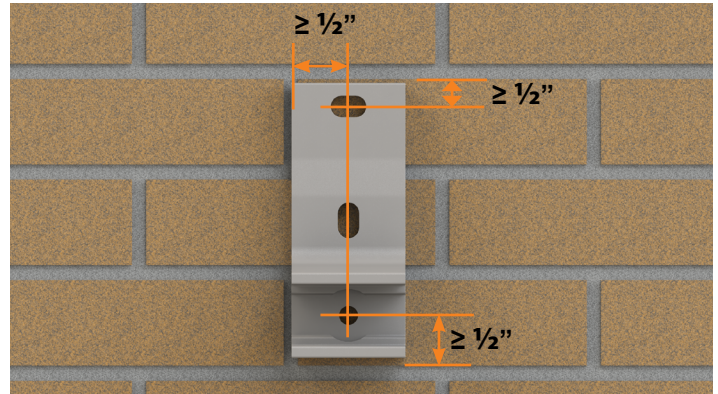

Fig.19
- When installing on brick surfaces, masonry fasteners must always be installed into brick and never mortar. Measure and check the intended location of the brackets against the bricks on the mounting surface and ensure no fasteners will fall within ½” of the edge of any brick (Fig. 19). Adjust the planned location of any mounting brackets accordingly.